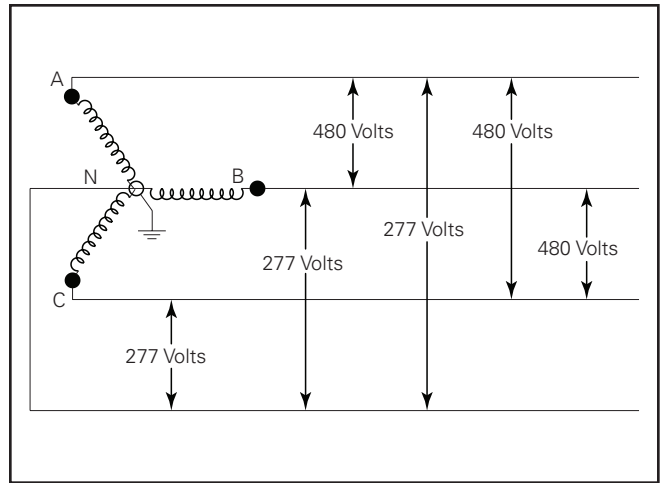

Figure 5. Wiring For 480V Wye Systems
2. Only for use with 480V Wye systems. Per NEC, not for use with ungrounded systems, impedance grounded systems or corner grounded systems (commonly known as Three Phase Three Wire Delta, Three Phase High Leg Delta and Three Phase Corner Grounded Delta systems). (Figure 5.)